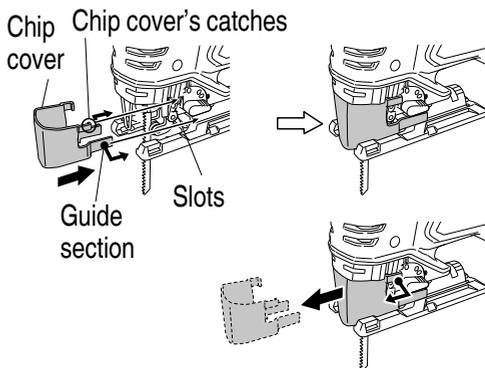

Fig. 16
10. Attaching and detaching the chip cover (Fig. 16)